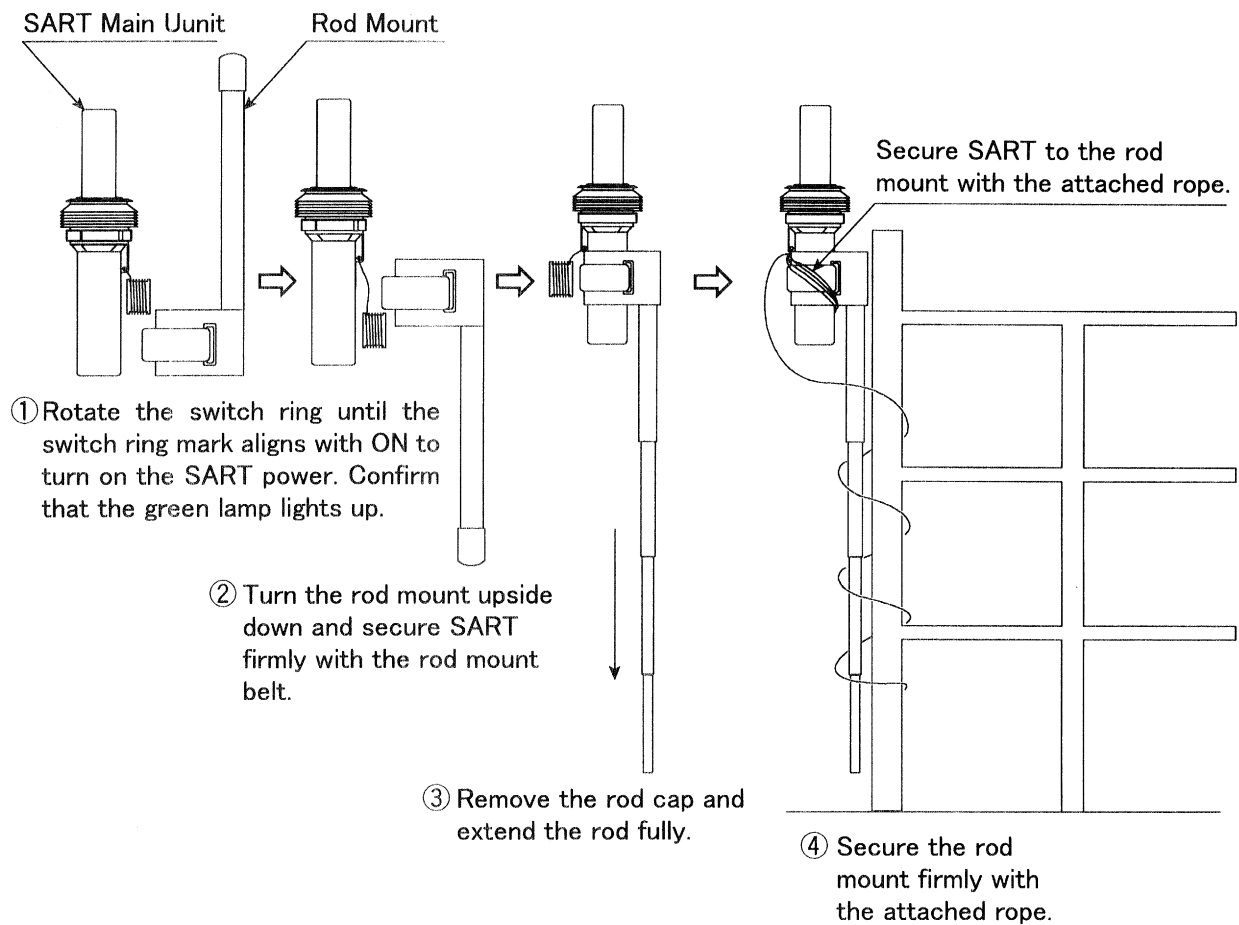

Fig. 4.2 Installation of SART Onboard a Ship with the Rod Mount
- (5) If the socket holder has not been installed or cannot be installed, secure SART firmly with the attached rope to a handrail or other similar location. (Refer to Fig. 4.2)